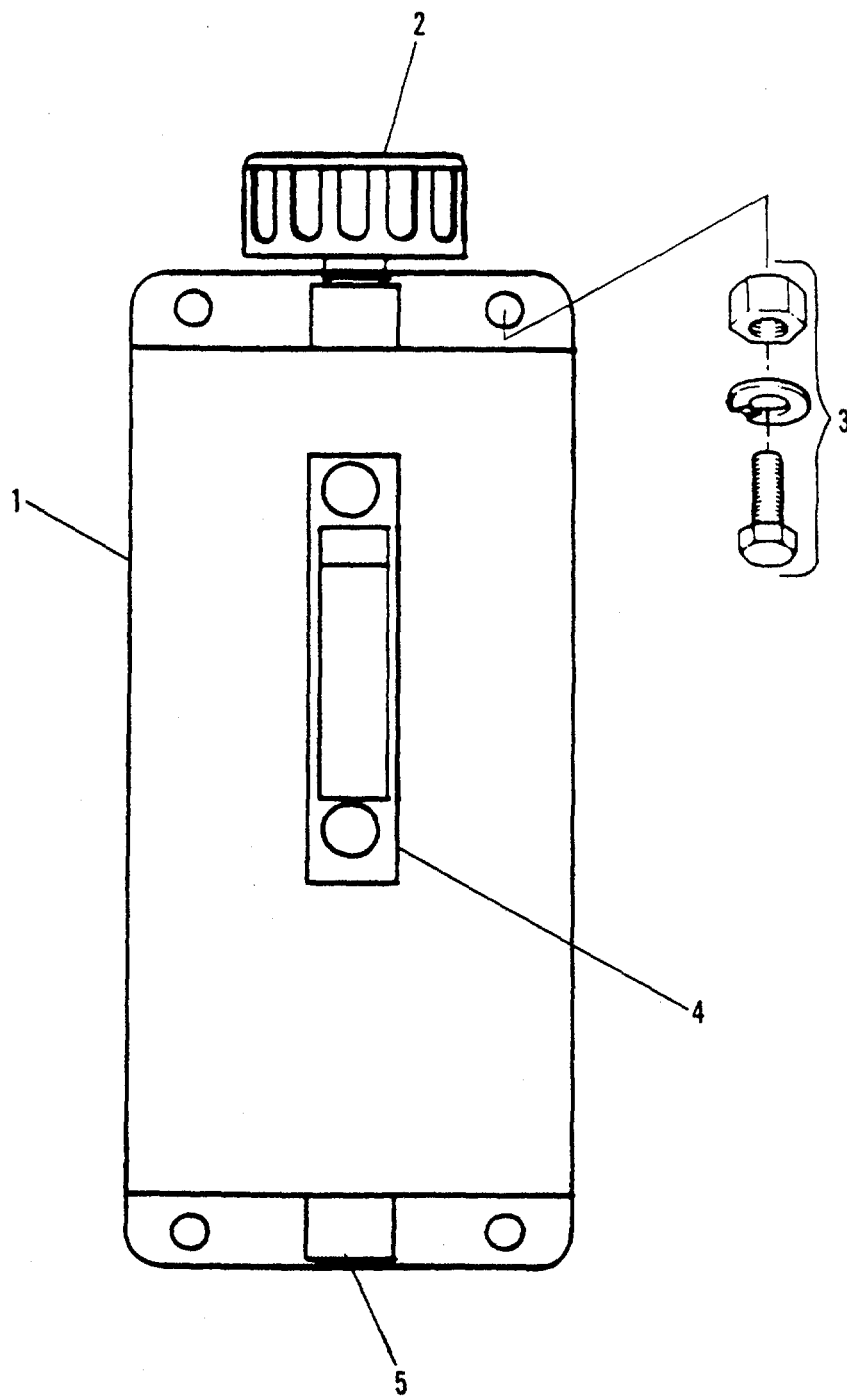

Figure 2-13 Header Tank
- (1) Restore power to pumpset.
- (2) Check for leaks.
- (3) Return pumpset to normal operation (TM 55-1905-223-10).
- (4) Remove "Out of Service - Do Not Operate" tag from circuit breaker.
**2-22. Replace/Repair Header Tank (FIGURE 2-13)**